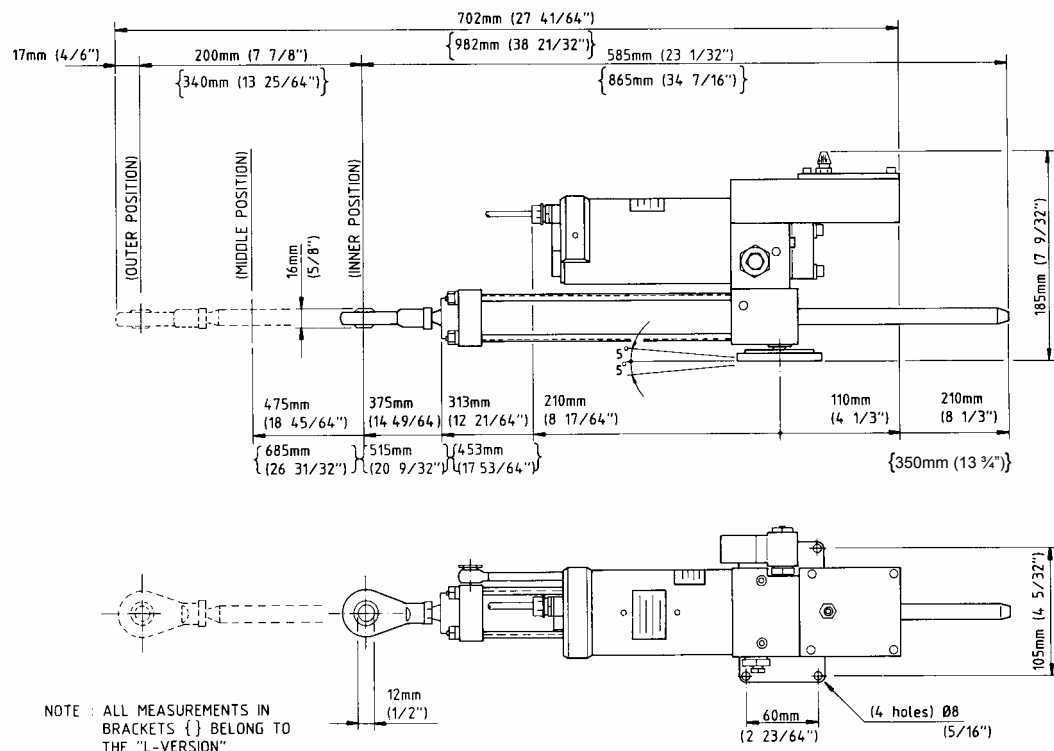

Figure 1 HLD dimensions (shown with Fracmo motor)
- Rev. B Added measurement on figure 1. Adjusted figure 5.
Dimensions: See fig. 1
Caution ! *Do never install the unit upside down! (The air valve should be facing upwards.) The HLD must be installed horizontally only. No more than ± 5 degrees tilt is allowed at any position, as illustrated on figure 1. The HLD should not act as an end stop for the rudder.*
HLD må aldri monteres opp ned! (Lufteventil på tank skal peke oppover). Enheten må monteres horisontalt, og slik at avviket fra horisontalplanet aldri overstiger ± 5 grader, slik som illustrert på fig. 1. HLD må ikke monteres slik at den fungerer som endestopp for roret.